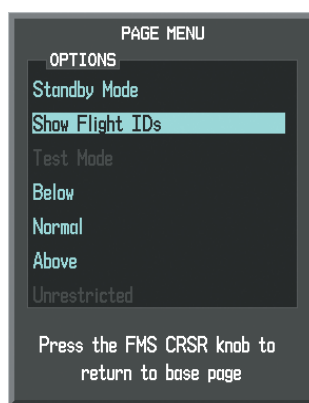

Figure 6-132 Traffic Map Page Menu
- 2) Turn the small **FMS** Knob to select 'Show Flight IDs' or 'Hide Flight IDs' (choice dependent on current state) (Figure 6-132).